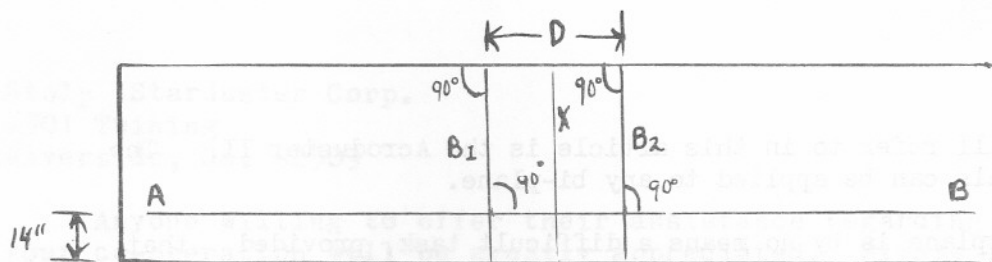

FIG. 2
- A. Clear an area 4' X 20". This table or bench must be level. Mark your lines as in Fig. 2 : Use X only if you have no center Section as with the single place models.